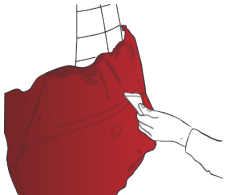

Figure 18
- › Apply the film over the whole surface using a felt-covered, plastic squeegee, and carefully wipe over the convex area (FIG. 18) to eliminate any tensions and folds.